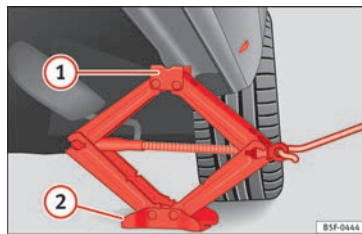

Fig. 76 Strut: mounting the jack on the vehicle.
• Turn the jack*, located below the strut support point, to raise it until tab ① »» **Fig. 76** is below the housing provided.
• Align the jack* so that tab ① “grips” onto the housing provided on the strut and the mobile base ② is resting on the ground. The base plate ② should fall vertically with respect to the support point ①.